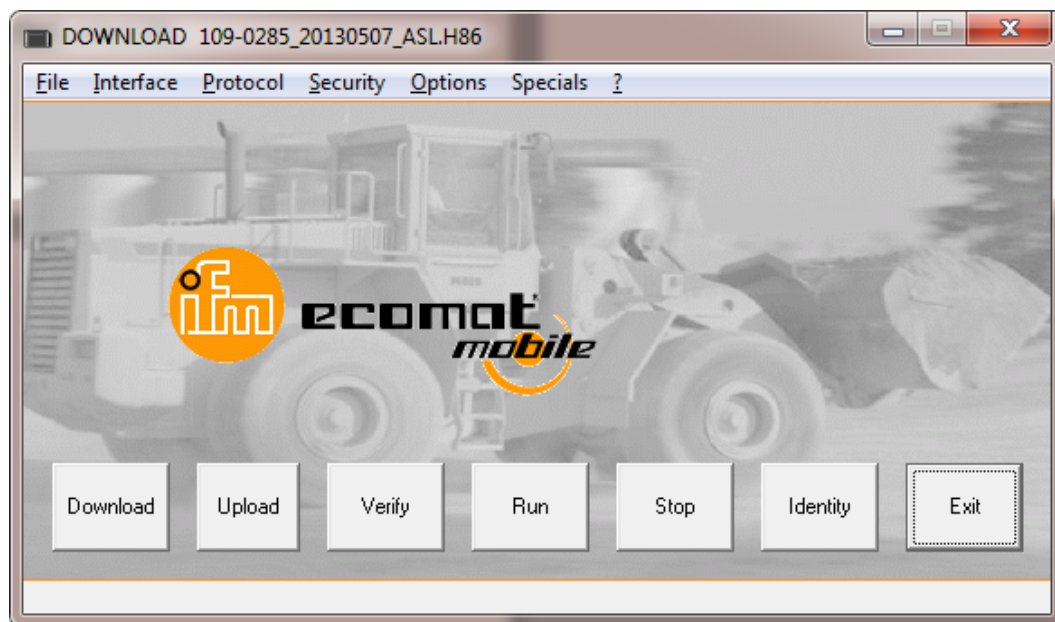

Figure 9. Click “Exit” on the Downloader Screen to Close the Download Program
- (i) Click “EXIT” to close the Downloader Program. See **Figure 9**.